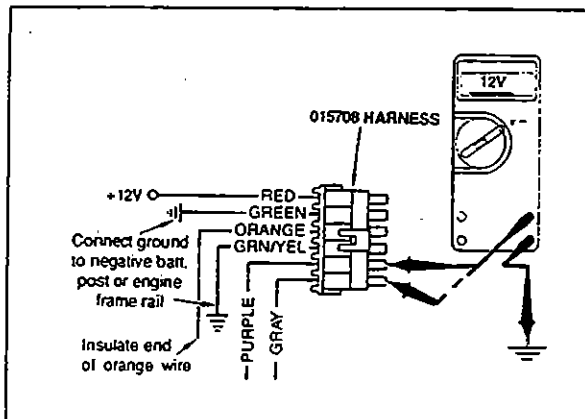

Fig. 1.1.21
**Optional Selector Switch:** Disconnect P/N 015708 harness from control module. Measure voltage at both PURPLE and GRAY wires. With selector switch in HI position, both wires should read +12 VDC (Fig. 1.1.21). If this condition is not present, check power supply, connections and switches. Repair or replace as required.